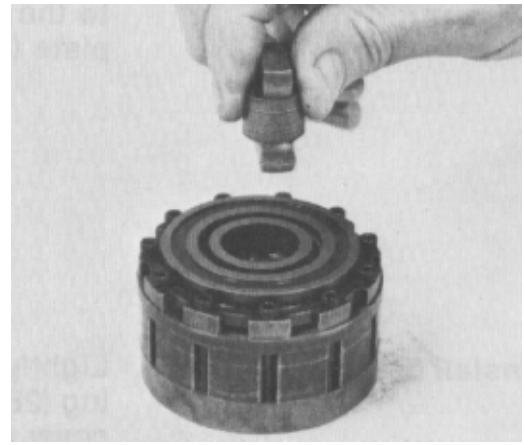

Figure 103
22. Insert the LARGE tang of the drive link into the slot in the rotor (Fig. 103).